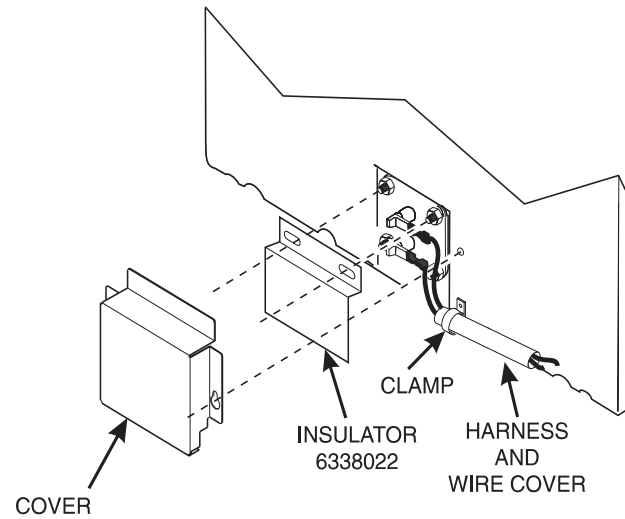

Figure 3
7. See figure 3. Connect the harness to the heater.